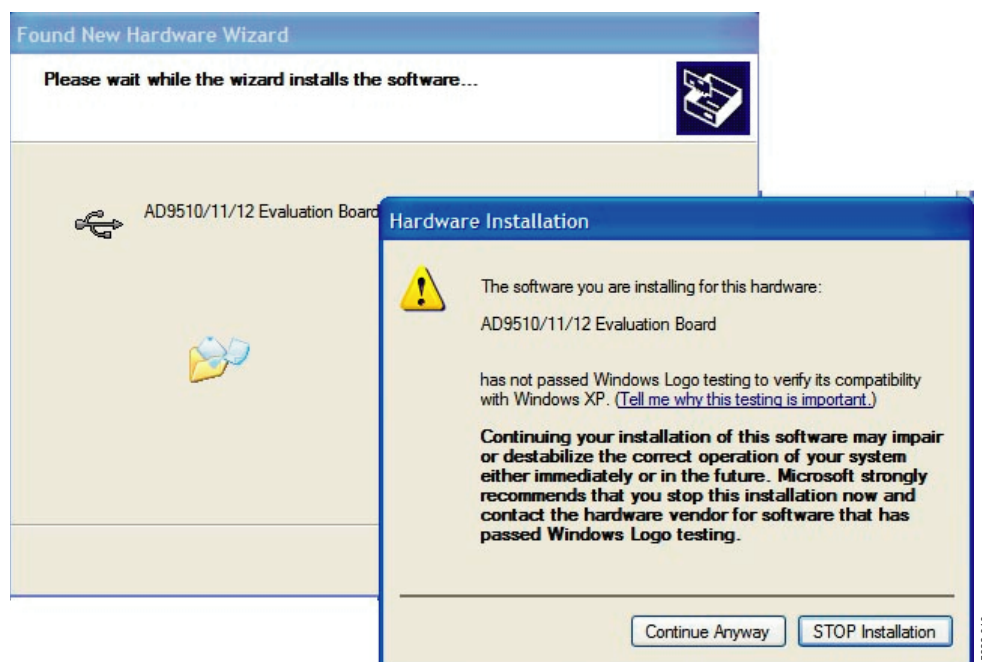

Figure 10.
7. When the window in Figure 10 appears, click **Continue Anyway**.